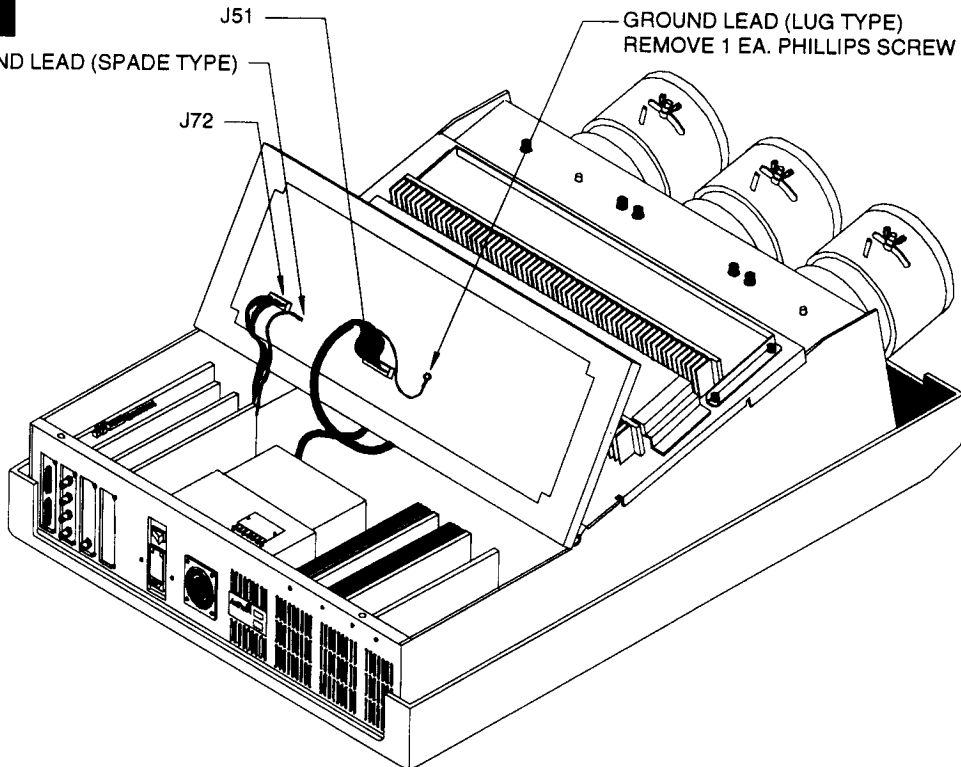

FIGURE 9-18A. Registration replacement (3600).
- STEP 3. On the underside of the Registration assembly, disconnect J51, J72, the ground lead (via spade lug, and the ground lead secured by the 4-40 phillips screw. See Figure 9-18A and 9-18B.